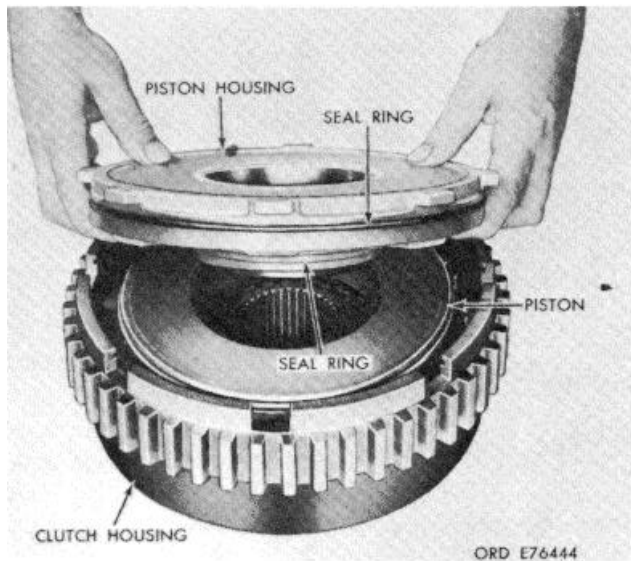

Figure 7-44. Installing output clutch piston housing
n. Install the hook-type sealring onto the hub of the piston housing. Using a liberal amount of oilsoluble grease, install the sealring at the outer circumference of the piston housing (fig. 7-44).
o. Aline the tangs on the piston housing with the slots in the clutch housing and install the piston housing (fig. 7-44).